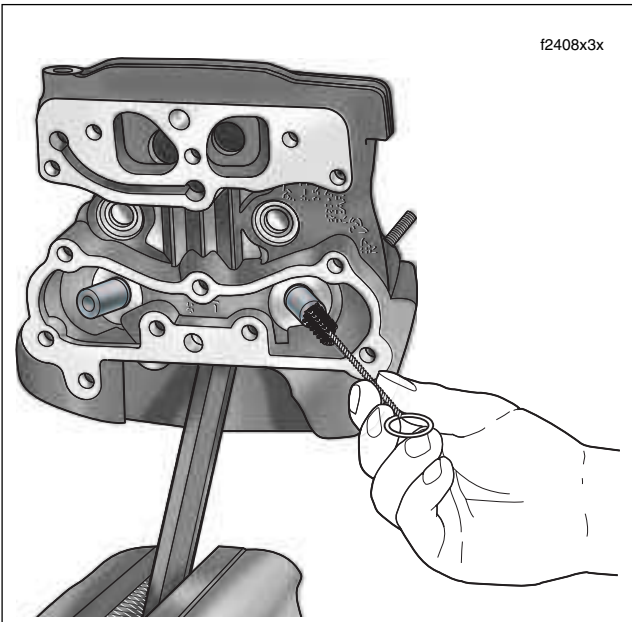

Figure 3-76. Scrub Valve Guide Bore
9. Direct compressed air into the valve guide bore to remove any debris and then clean with the VALVE GUIDE CLEANING BRUSH (HD-34751). See Figure 3-76.